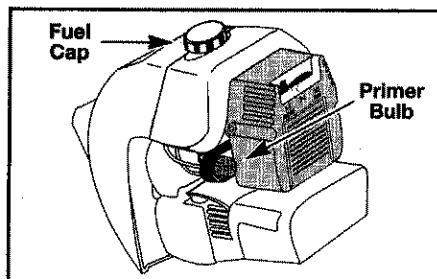

Fig. 7
3. **FULLY PRESS AND RELEASE THE PRIMER BULB 5 TO 7 TIMES. FUEL SHOULD BE VISIBLE IN THE BULB** (Fig. 7).